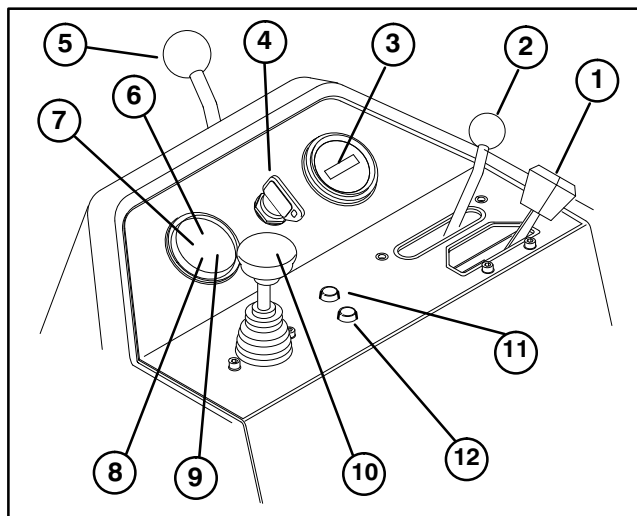

Figure 23
Throttle Control (Fig. 23) – The Throttle Control gives the operator the ability to control the speed of the engine. Moving the Throttle Control toward the “FAST” position increases engine RPM; moving Throttle Control toward “SLOW” will decrease engine RPM.
Functional Control Lever (Fig.23) – Provides two (2) traction selections, plus a “NEUTRAL” position. It is permissible to shift from mow to transport or transport to mow (not to neutral) while the Greensmaster 3250–D is in motion. No damage will result.
Hour Meter (Fig.23) – Indicates the total hours of machine operation. The hour meter starts to function whenever the key switch is rotated to “ON”.
Ignition Switch (Fig. 23) – Insert key into switch, turn clockwise as far as possible to “START” position to start engine. Release key as soon as engine starts; key will move to “ON” position. Turn key counterclockwise to “OFF” position to stop engine.
Steering Arm Locking Lever (Fig.23) – Rotate lever rearward to loosen adjustment, raise or lower steering arm for operator comfort, then, rotate lever forward to tighten adjustment.
Water Temperature Light (Fig. 23) — Light glows and engine automatically shuts down when engine coolant temperature gets too high.
Water in Fuel Indicator Light (Fig. 23) — Light glows when water is detected in fuel.
High Temperature Override Button (Fig. 23) —If engine kills due to an over heat condition, press over ride button in and hold until machine can be moved to a safe location and allowed to cool down.
Glow Plug Indicator Light (Fig. 23) – When lit, indicates glow plugs are on.
Battery Warning Light (Fig. 23) – Light glows if battery charge is low.
Oil Pressure Light (Fig. 23) — Light glows if engine oil pressure drops below a safe level.
Raise / Lower – Mow Control (Fig 23) – Moving control forward, during operation, lowers the cutting units and starts the reels. Pull back on control to stop reels and raise cutting units. During operation reels can be stopped by pulling back on control momentarily and releasing. Restart reels by moving control forward.